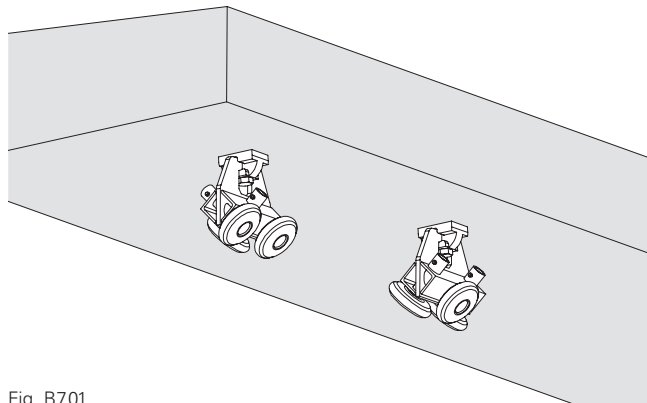

Fig. B7.01
Ensure that the Suspension Head M24 VARIOKIT (14) is correctly assembled. The hook pockets of the Suspension Head M24 VARIOKIT (14) should always point alternately towards the outer edge and inner edge of the cantilever. (Fig. B7.01)